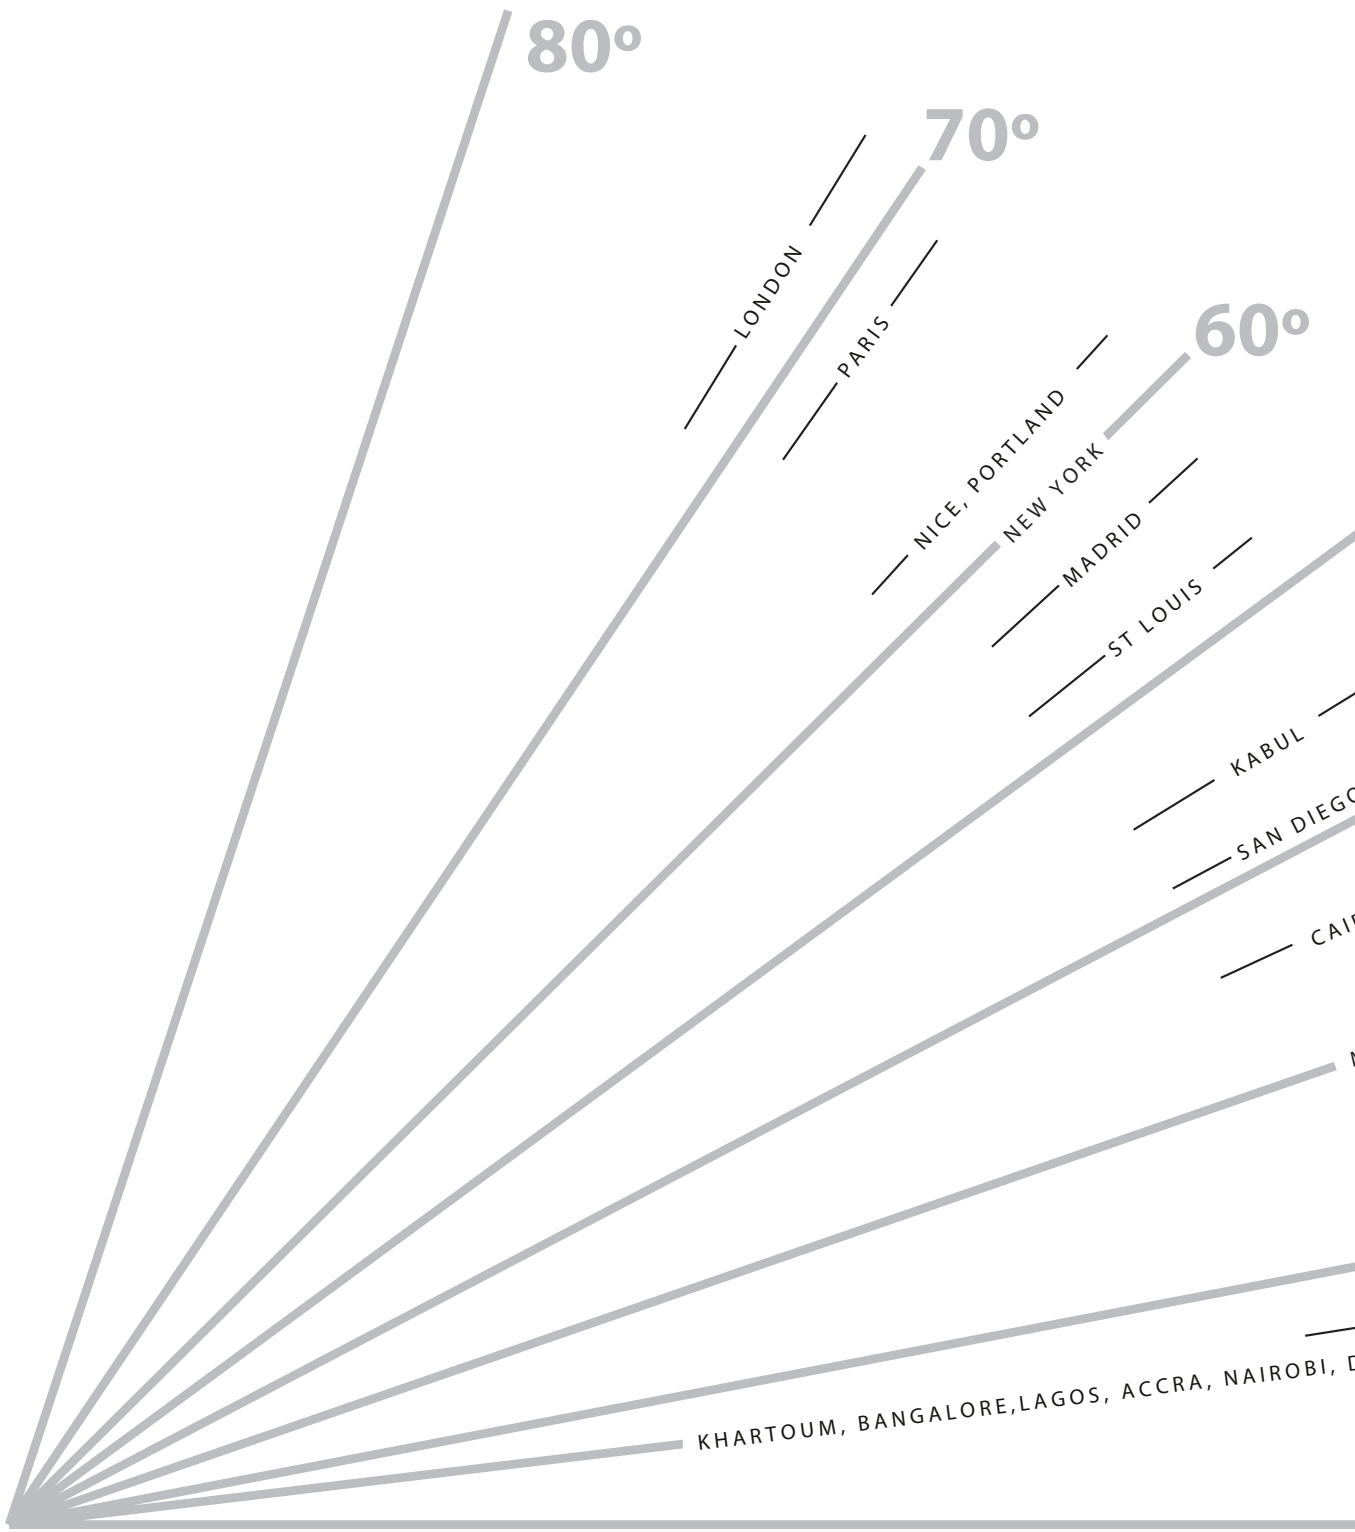

**Figure 10:** Closing the Lumina cap
- vi) Slide on the clear lens (diffuser) and attach the small end cover to complete the installation (**Figure 10**).